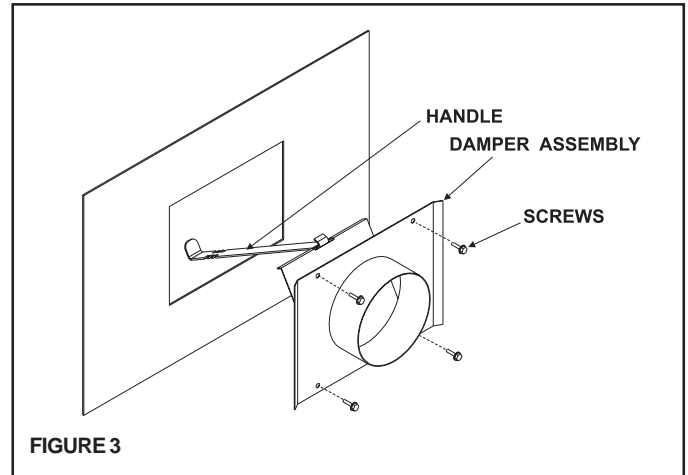

FIGURE 3
2. Insert the narrow portion of the HANDLE into the slot on the DAMPER ASSEMBLY. Orient the DAMPER ASSEMBLY so the handle extends off the top and into the fireplace controls compartment. Secure in place over the opening on the fireplace using the provided screws (4). See Figure 3.